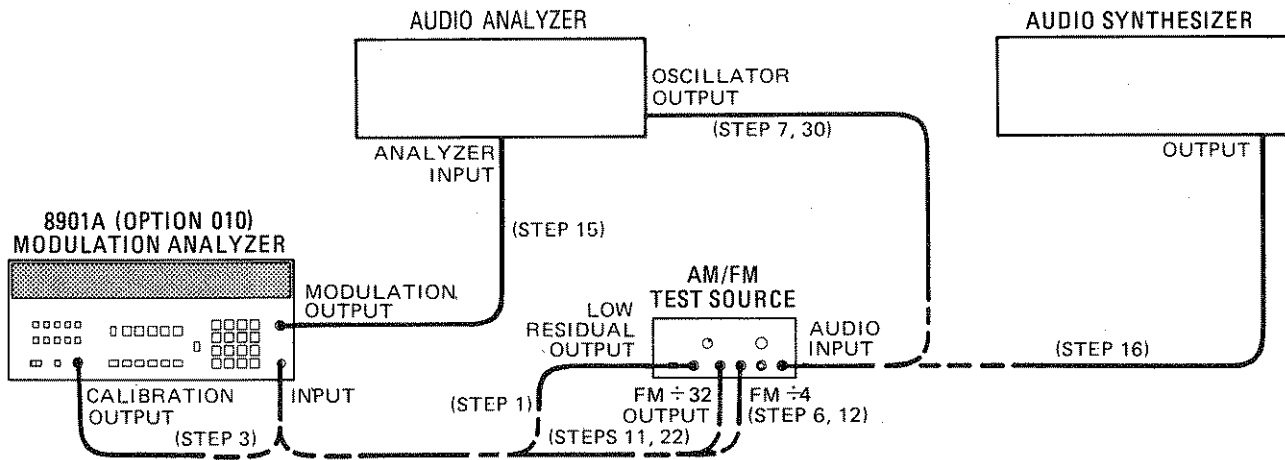

Figure 4-3. FM Performance Test Setup
1. On the AM/FM test source, set the test mode to residual FM. Connect its low-residual (560 MHz) output to the Modulation Analyzer's INPUT. (See figure 4-3.)
3. Connect the Modulation Analyzer's CALIBRATION OUTPUT to the INPUT. (See figure 4-3.)
6. On the AM/FM test source, set the test mode to FM. Connect its FM÷4 output to the Modulation Analyzer's INPUT. (See figure 4-3.)
7. Set the audio analyzer's source to 10 kHz at 0.5 V. Connect its output to the audio input of the AM/FM test source. (See figure 4-3.)
11. Connect the FM÷32 output of the AM/FM test source to the Modulation Analyzer's INPUT without disturbing the AM/FM test source's controls. (See figure 4-3.) Multiply the displayed ratio on the Modulation Analyzer by the calibration factor of step 4. (For example, if the display reads 12.52% REL and the calibration factor of step 4 is 100.4%, the result is  $12.52 \times 100.4 = 12.57\%$  REL.) The result should be between 12.35 and 12.65% REL.
12. Connect the FM÷4 output of the AM/FM test source to the Modulation Analyzer's INPUT. (See figure 4-3.)
15. Connect the audio analyzer's input to the Modulation Analyzer's MODULATION OUTPUT. (See figure 4-3.) Set the audio analyzer to measure the distortion on the 100 kHz signal at the MODULATION OUTPUT (all audio analyzer filters should be off). The distortion should be 0.1% or less (-60 dB or less).
16. Set the audio synthesizer to 10 kHz at +5 dBm. Connect its output to the audio input of the AM/FM test source. (See figure 4-3.) Fine adjust the level for a Modulation Analyzer display of 100 kHz times the calibration factor of step 5. (For example, if the calibration factor of step 5 is 100.4%, set the level for a display of 100.4 kHz.)
22. Connect the FM÷32 output of the AM/FM test source to the Modulation Analyzer's INPUT. (See figure 4-3.)
30. Set the audio analyzer's source to 10 kHz at 2 V. Connect its output to the audio input of the AM/FM test source. (See figure 4-3.) Fine adjust the oscillator level for a Modulation Analyzer display of 10 kHz peak deviation.